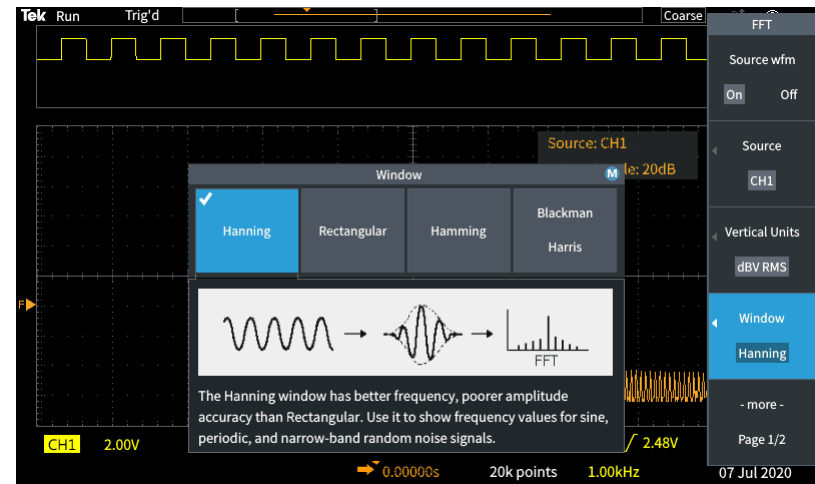

Figure 2. Helpful tip to provide more details regarding the FFT window
4. When you use the Trigger, Measure, or Cursor function later on, you'll see Help Everywhere tips that explain trigger modes, measurements, and cursor types (Figure 2)